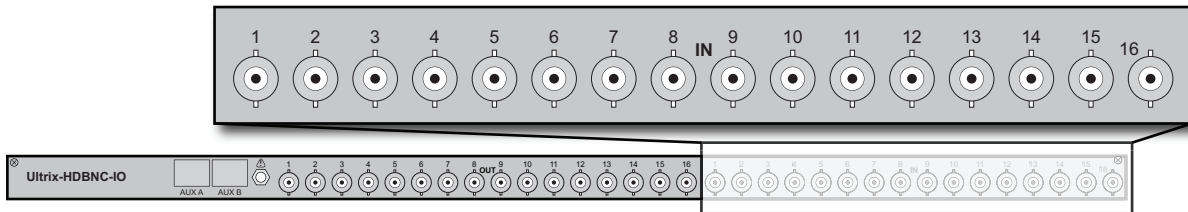

Figure 39 Ultrix Rear Panel — IN BNC Mapping for an ULTRIX-HDBNC-IO Blade
**Figure 39** outlines the SDI input cabling designations for an ULTRIX-HDBNC-IO blade. The input BNCs are located on the right side of each blade.